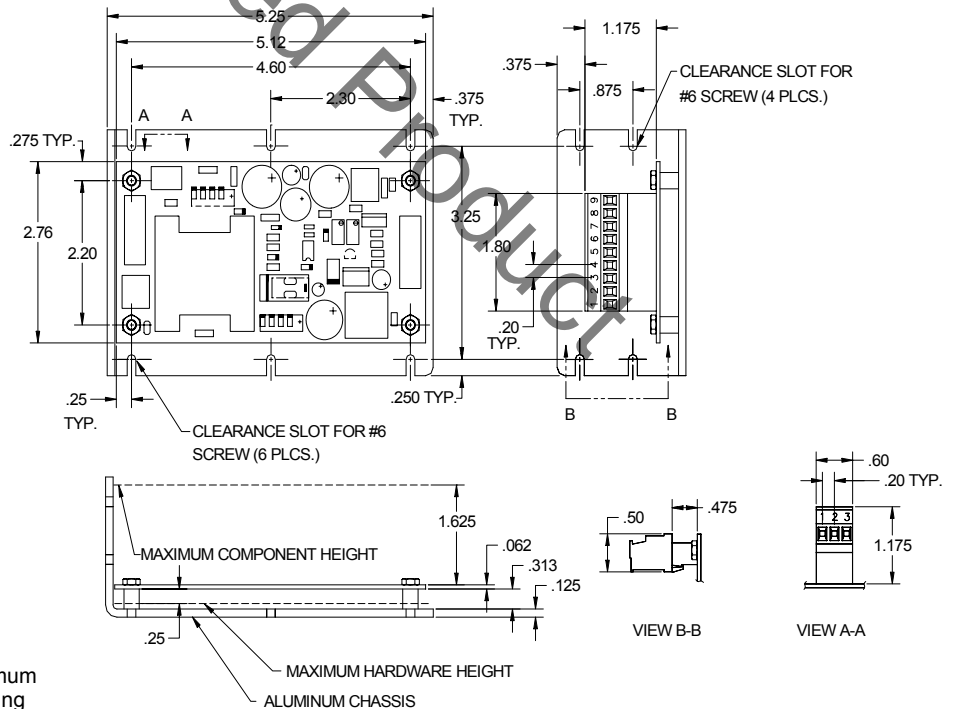

Figure 1
- Open frame printed circuit card mounted to an aluminum chassis. (See Figure 1)